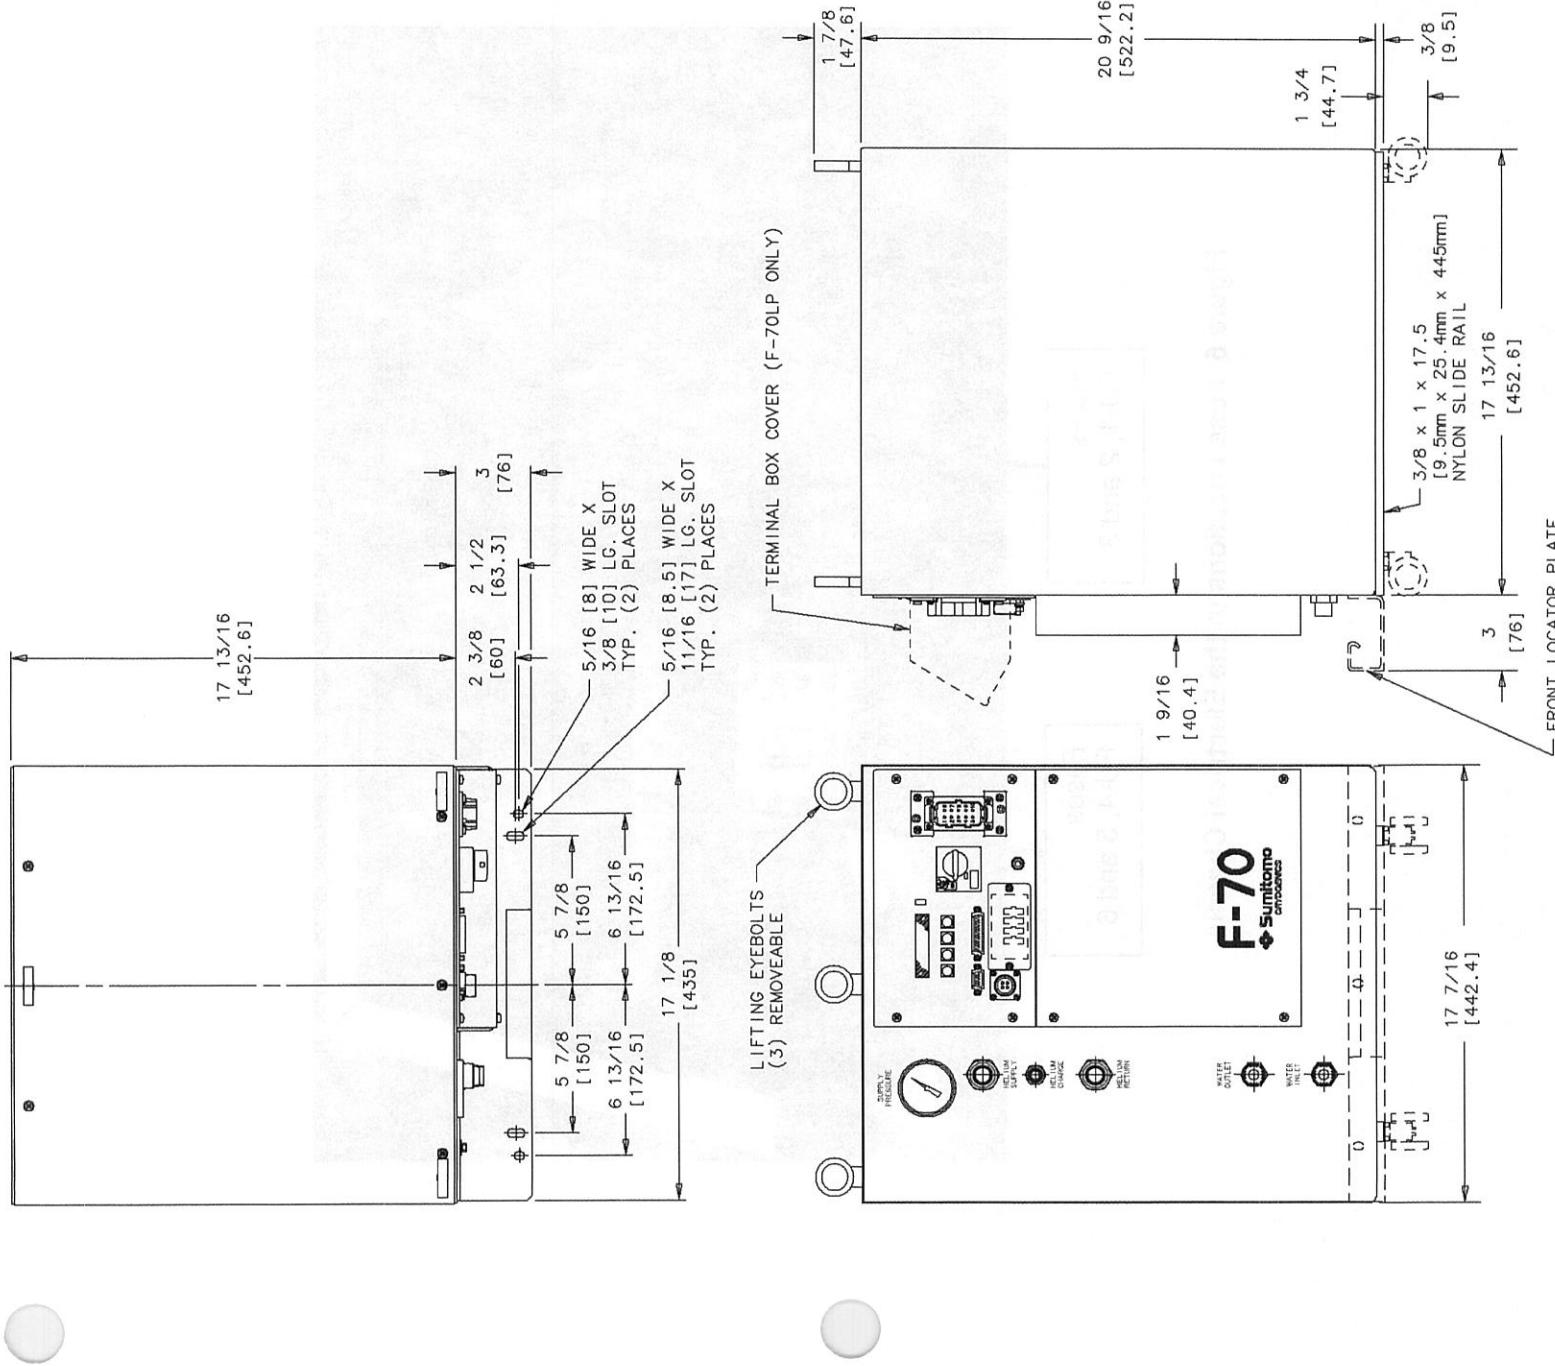

Figure 5 F-70H, F-70L and F-70LP Compressors, Dimensions
See Figure 5.
- 1.3 Insert and tighten the three (3) furnished eyebolts into the top of the compressor. See Figure 5.